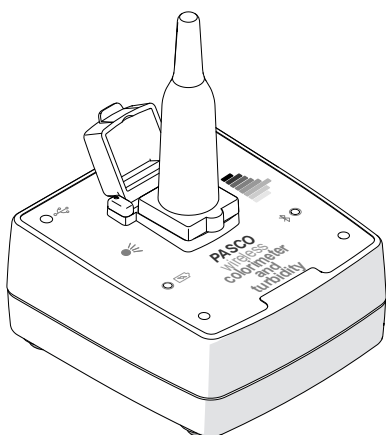

Figure 1. Ampoule cap covering an ezSample Snap Vial ampoule inserted into the test chamber.
- To keep out ambient light, cover the ampoule in the test chamber with the ampoule cap, as shown in Figure 1.